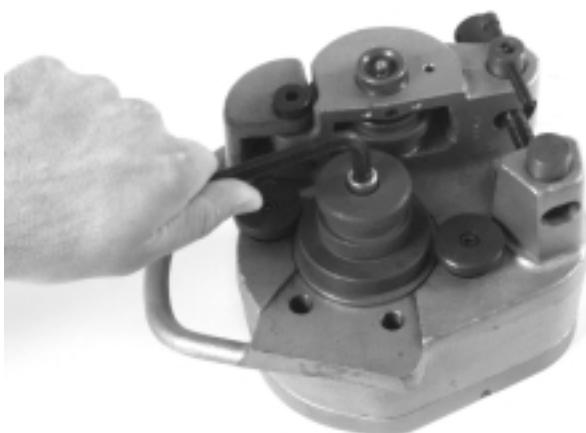

Figure 8 – Removing Hex Screw from Drive Roll
3. Remove the hex screw retaining the drive roll with a $\frac{5}{16}$ " hex key (*Figure 8*). If using the 8" – 12" or 4" – 6" rollset, remove the drive roll support bolts with a $\frac{3}{8}$ " hex key.